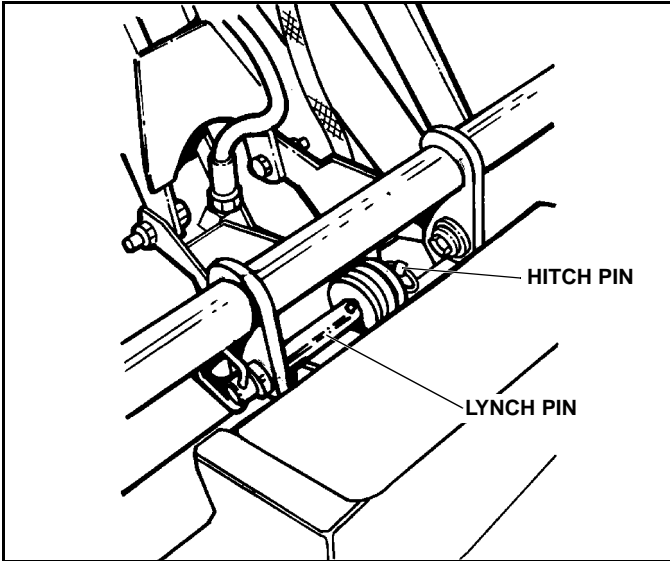

Figure 1-4
8. Lower the A-Frame into alignment with the lower Hitch Pin mounting holes of the vehicle Subframe and install the two lower Hitch Pins. Secure with Lynch Pins. (See Figure 1-4)
10. Raise the Lift Link and Light Bar manually to align the upper Hitch Pin mounting lugs and slide the upper Hitch Pin into place. Install the Lynch Pin to retain the Hitch Pin. (See Figure 1-4)